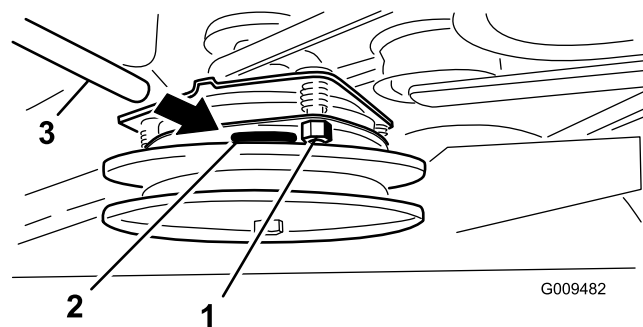

Figure 62
3. Tighten the lock nuts until there is slight binding on the feeler gauge, but it can be moved easily within the air gap (Figure 62).